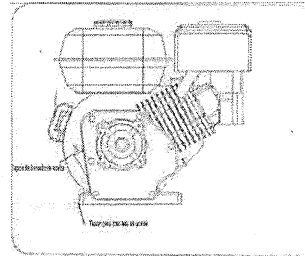

Figure 28
- Unscrew oil fill cap from oil filler tube and wipe dipstick clean. See Figure 28.
- Locate the oil drain plug, See Figure 28.
- Clean area around oil drain plug, See Figure 28.